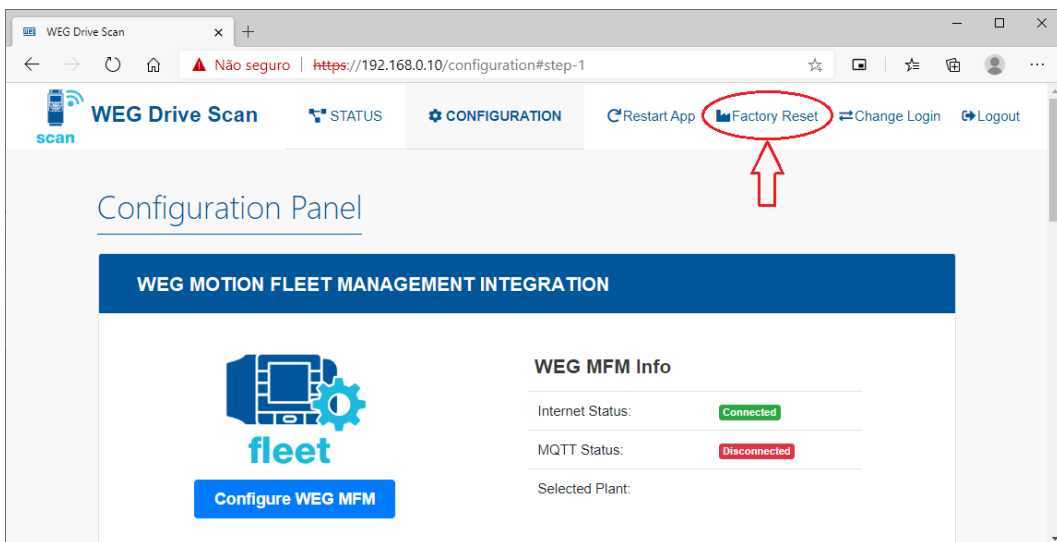

Figure 6.21: Command to reset the Drive Scan to factory default
- use the Factory Reset option (Figure 6.21);